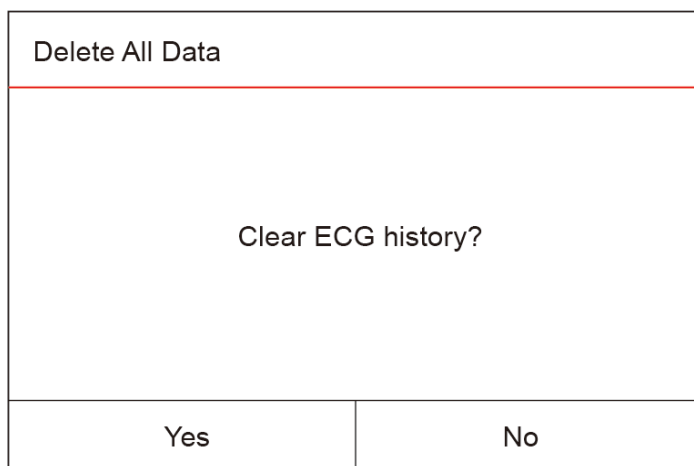

Figure 4.5 Delete ECG history
- Long pressing OK "👉" key, then a dialog of deleting records pops up, as shown in figure 4.5, the user can delete all history ECG waveform data according to prompt.